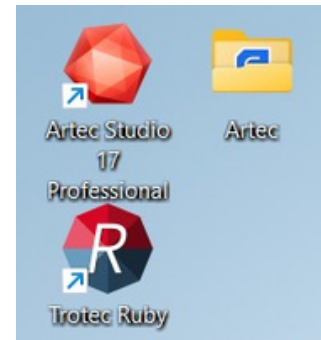

Figure 4. Artec Studio
1. To begin scanning, go to the computer and open the "Artec Studio" app by clicking on its icon (Figure 4).